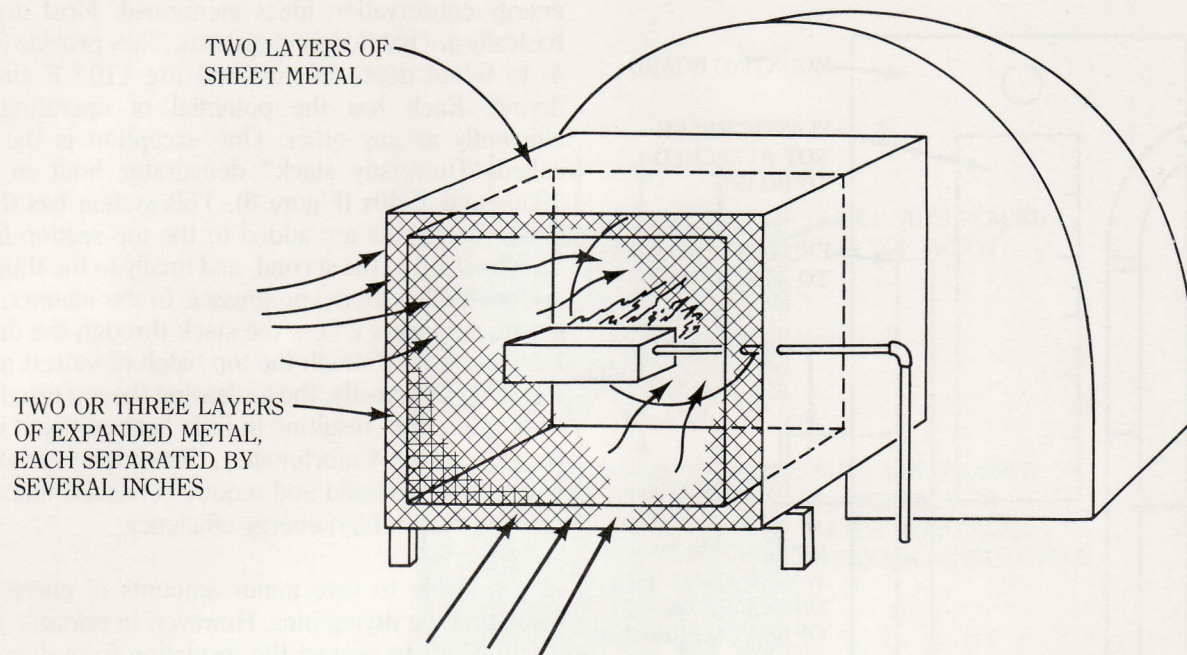

Figure 5. Typical method of shielding a burner to prevent radiant heat loss.
- Shield the flame to prevent radiant heat loss and to provide safety. Typically, a burner shield consists of an inner shield of sheet or expanded metal surrounding the burner area and an expanded metal screen across the inlet area (Figure 5). The inner layer absorbs the radiant heat and transfers it to the moving air.